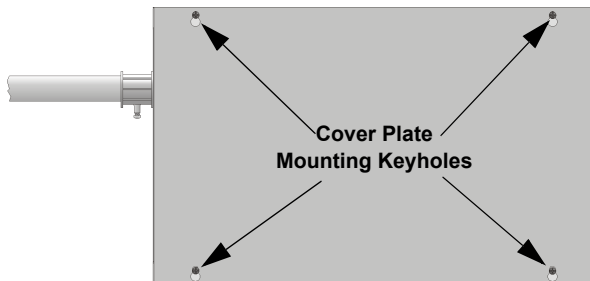

Figure 4: Cover Plate Mounting Keyholes and Cover Mounting Screws Alignment
6. Align the cover plate mounting keyhole over the cover mounting screws. See Figure 4.
7. Slide the cover into place and tighten the cover mounting screws. See Figure 4.